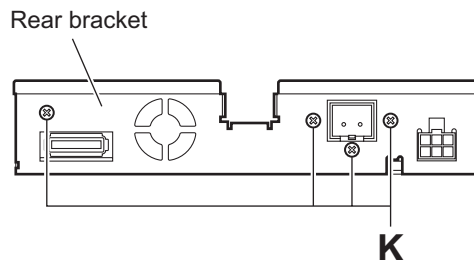

Fig.12
3.1.6 Removing the main board (See Figs.12 and 13)
- (1) From the rear side of the main body, remove the four screws **K** attaching the rear bracket. (See Fig.12.)